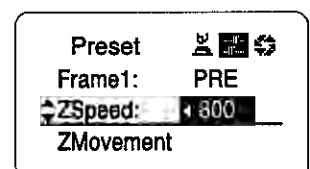

Fig. 6-9
The numerical value (see Fig. 6-9) which was set on the information display or by following the (2) Speed preset procedure is reflected as the speed.